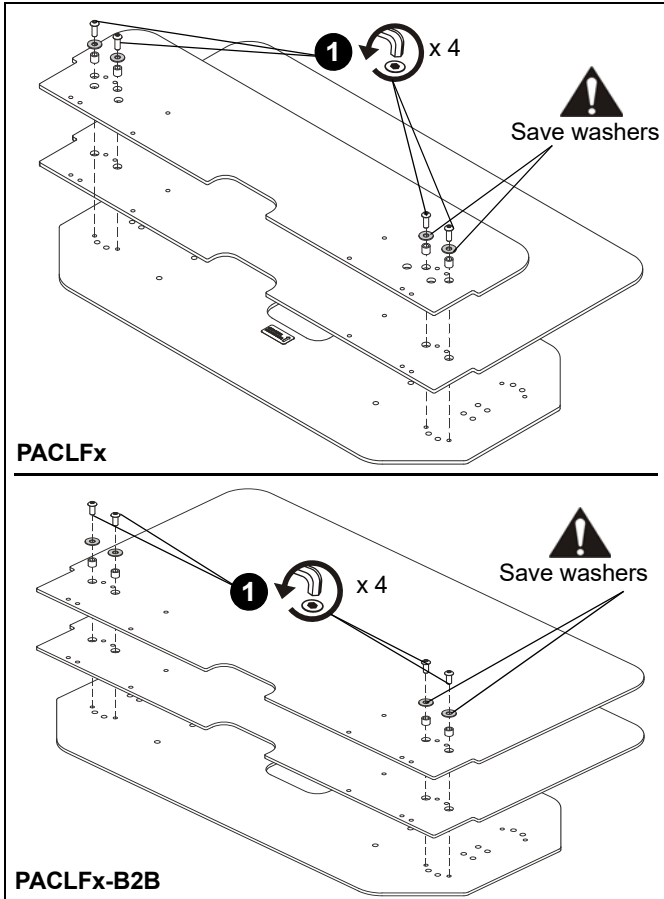

Figure 1
1. Remove the fasteners holding the base pieces together. (See Figure 1)